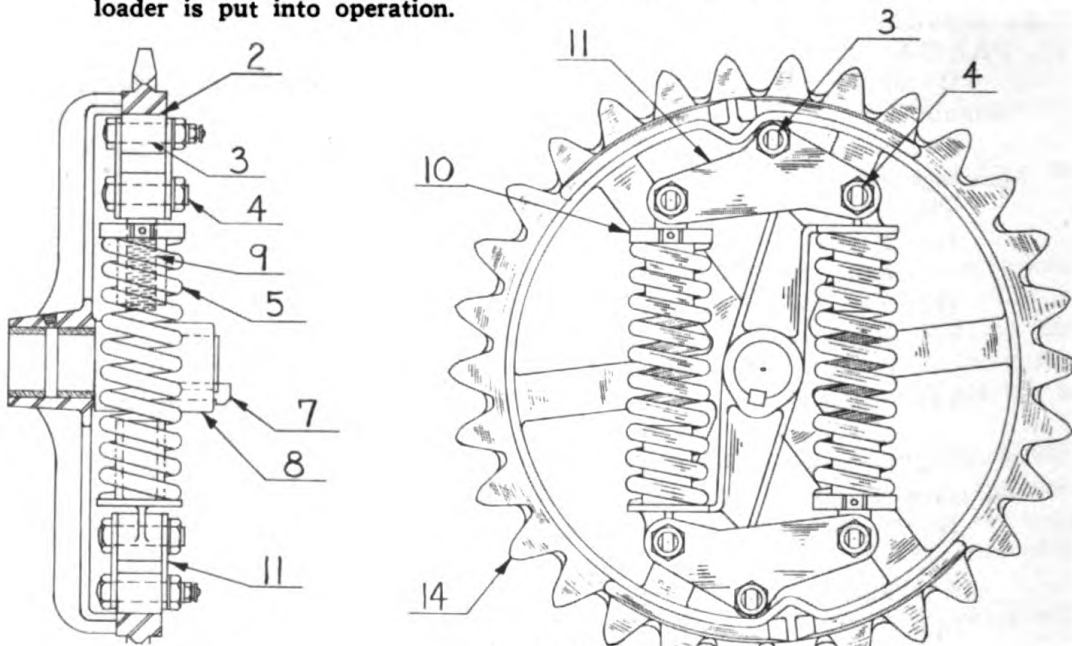

Figure 491
- (c) Loosen set screws and pull gib key (7) figure 491 from overload release sprocket hub (8).
- (a) Remove nuts from pivot pins (3) and (4) figure 491, roller plate assembly (11) and springs (5) will come off the carrier.
- (b) Roller assembly may be taken apart by removing nut of roller pins (3) and pins (4) which hold pins to plates (11).
- (c) Adjusting nut (10) threads on to eyebolt (9).